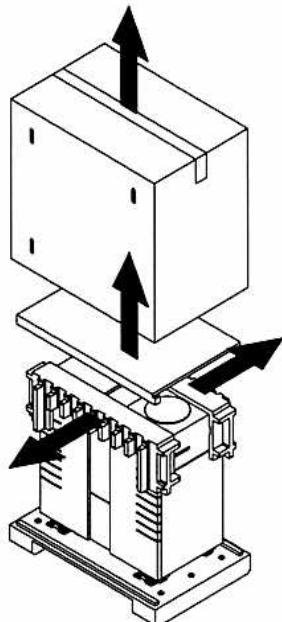

Figure 2: Removing the carton, ramp, and foam rails from the pallet
2. Lift the carton up to expose the jukebox, and set the carton aside (see Figure 2).
3. Using at least two people, remove the pallet ramp from on top of the jukebox and set it aside (see Figure 2).
5. Remove the foam rails from the top of the jukebox (see Figure 2).